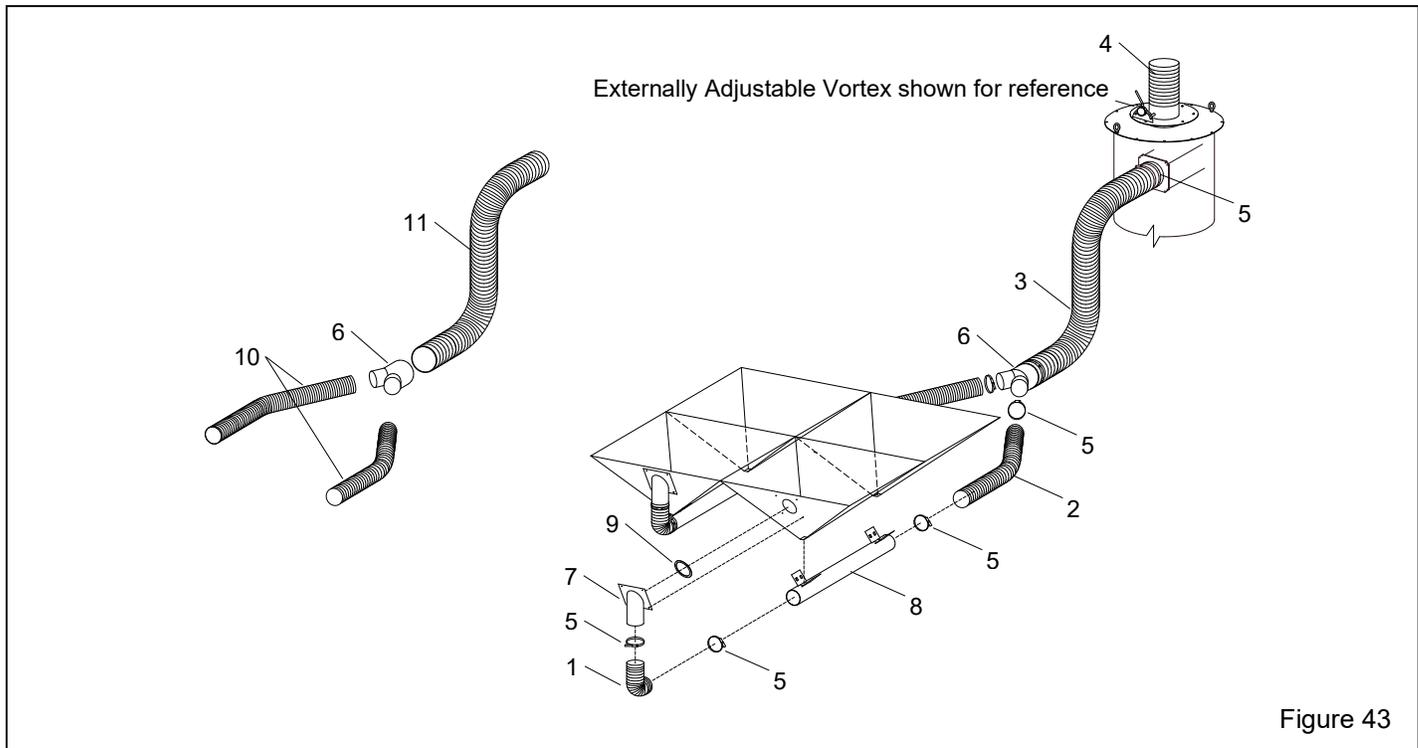

Figure 43
9.10 Flex Hose, Wye Pipe, and Adaptors – Figure 43